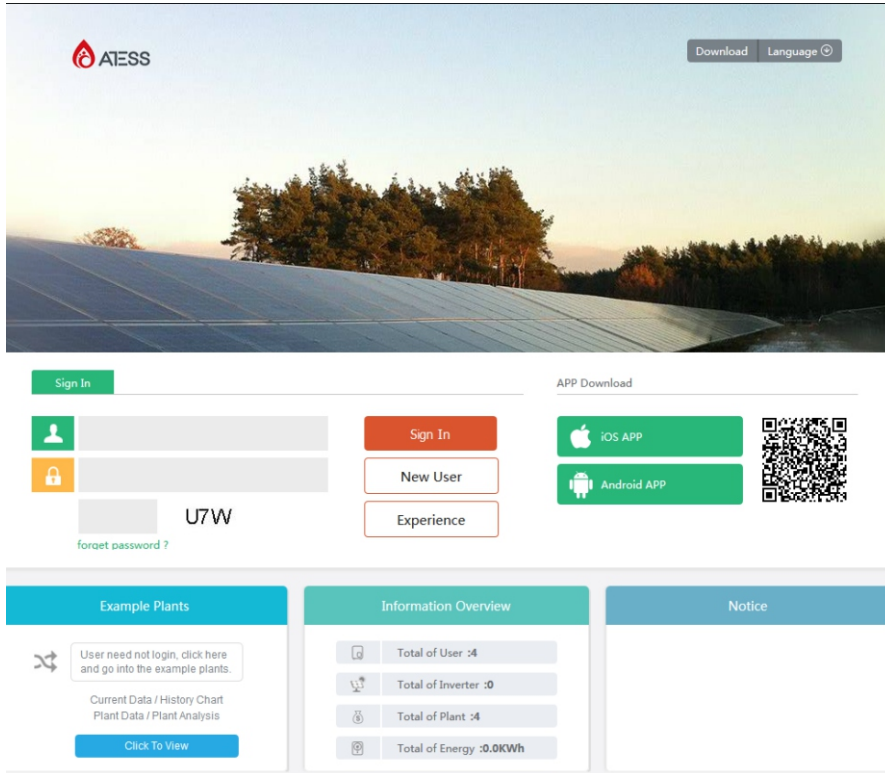

Figure 5-1 Shine Server login page
(1) Enter the address of the server on the computer browser to enter the ShineServer login page. If you are logging in for the first time, register the user name first. Enter the domain name access page, as shown in Figure 5-1.